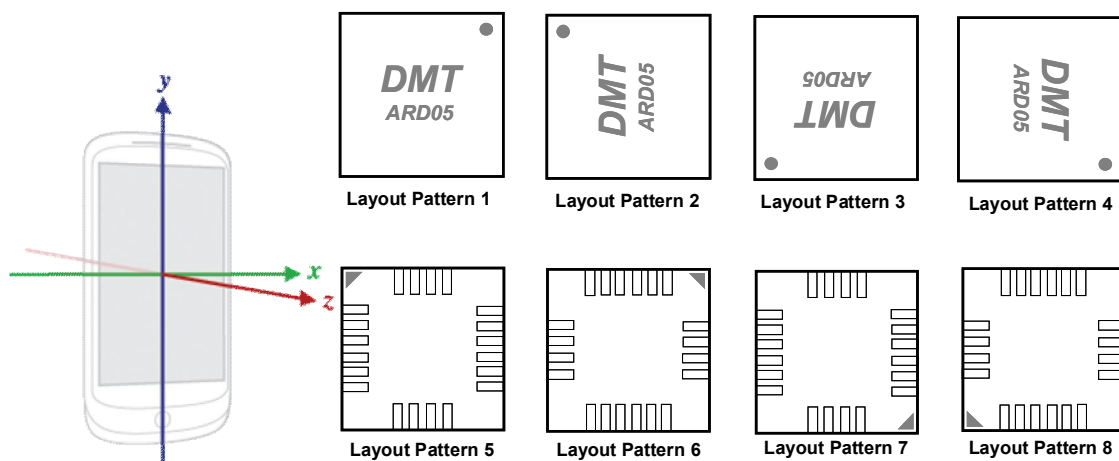

Figure 1: Android SensorEvent Coordinate System and DMARD05 Layout Patterns
2. Specify the g-sensor layout by defining one of the following macro in "dmt050607.h". The example code uses layout pattern 1. See Figure 1 for other g-sensor layout pattern orientations.
The coordinate system used by the Android SensorEvent API is defined relative to the screen of the phone in its default orientation, as shown in the Figure 1. Specify the g-sensor layout to one of the layout patterns illustrated below.